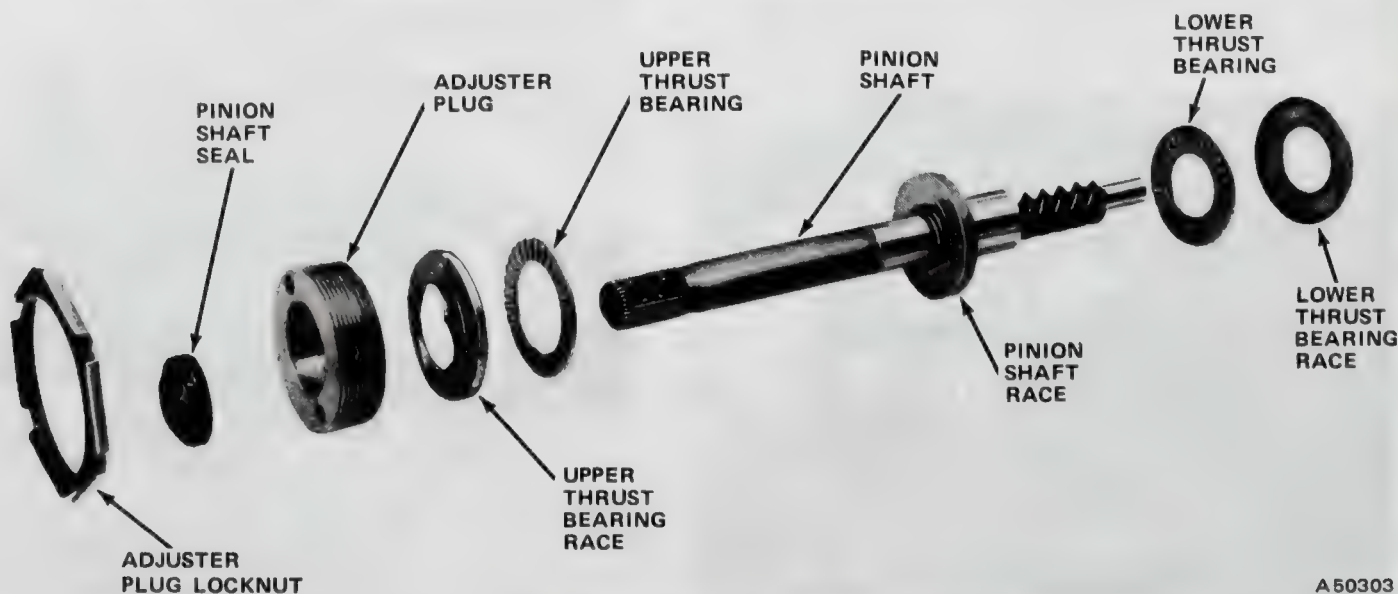

Fig. 2J-24 Pinion Shaft Bearings and Adjuster Plug Assembly
(25) Pull steering rack out of tube and housing assembly (fig. 2J-26).